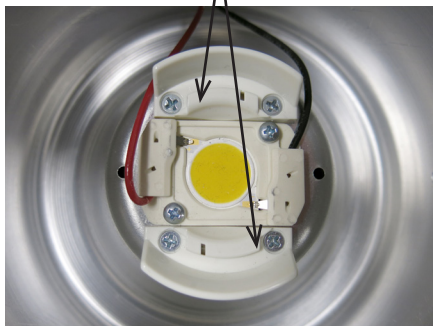
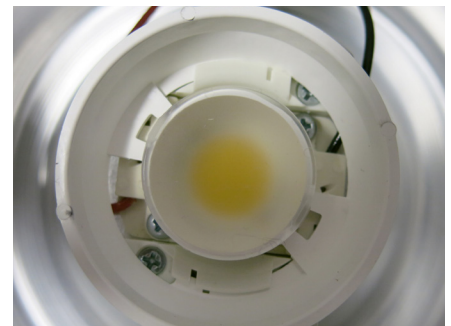

Figure 2a
Figure 2c
2. Align the mounting tabs of HYPERBOLIC NMC™ (Nano Mixing Chamber) OPTIC to the optic mounts in fixture as shown in Figure 2a & 2b. Rotate  $\frac{1}{4}$  turn clockwise until it stops as shown in Figure 2c.